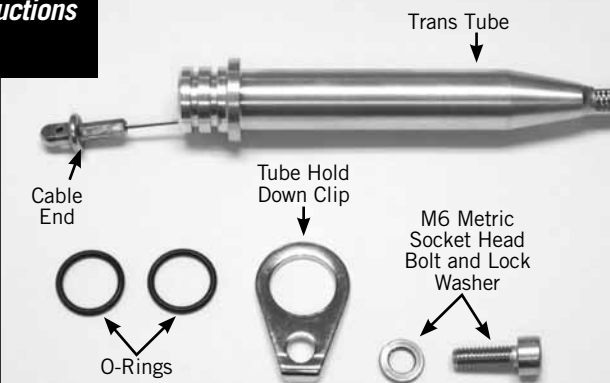

Fig. 3
Step 8: On the trans tube at the transmission end of the kickdown cable there will be either one or two o-ring grooves. TH350 & TH200 use one o-ring, and the 700-R4, TH200-4R, and 4L60 use two o-rings. Lightly lubricate the kickdown cable o-ring(s) with clean transmission fluid and slide the o-ring(s) into the groove(s) on the trans tube. To help prevent leakage add a small amount of silicone sealant (RTV) around the trans tube above the top o-ring. Fig. 3